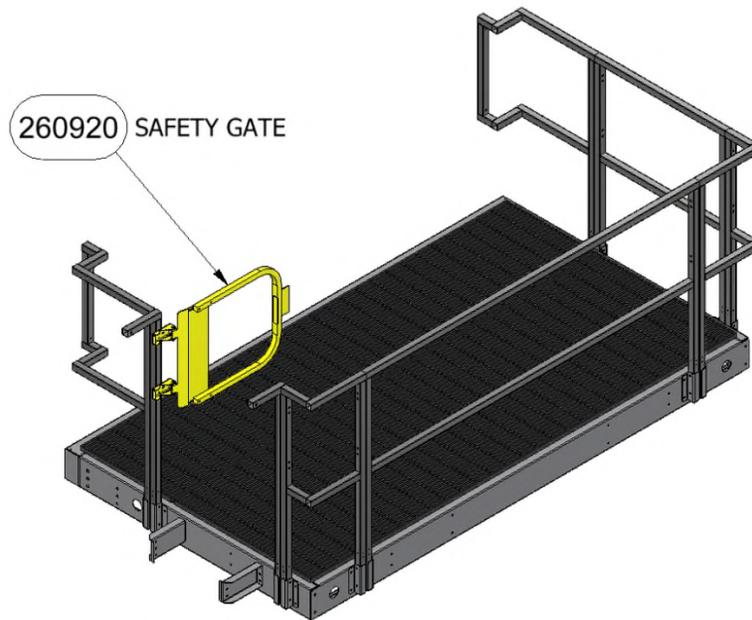

Figure 34. Ladder Opening Safety Gate Location
1. Align safety gate hinge to specified location in **Figure 34** .